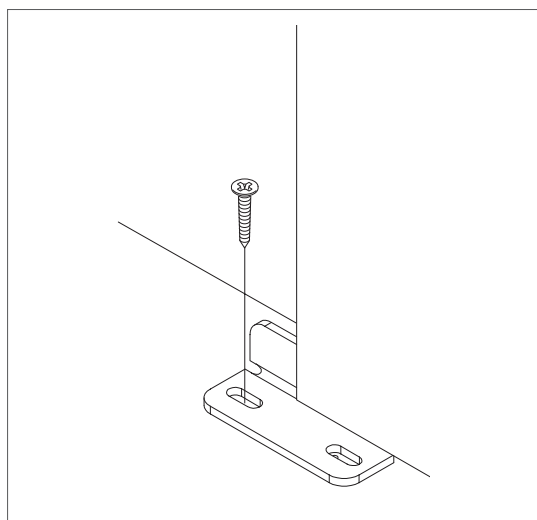

Figure 7
13. Position the door guide part way into the groove in the bottom of the door. (Figure 7).